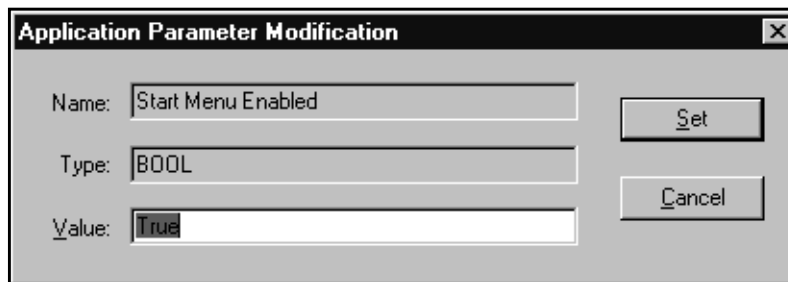

FIGURE 22. Setting Start Menu Enabled to True
- a. Type **true** at the Value command line as shown in Figure 22.